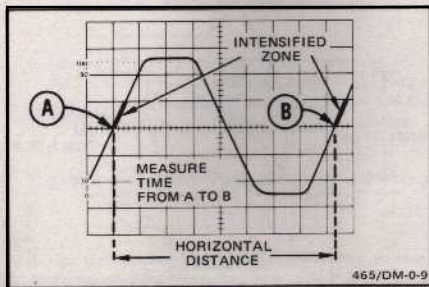

Figure 25. Time duration.
2. For the most accurate measurement, set the B TIME/DIV switch to the fastest sweep that provides a usable (visible) intensified zone. Vertically position the A Sweep display to place the time measurement points on the center horizontal graticule line (see Figure 25).
- Use the DELAY TIME POSITION control to move the start of the intensified zone so that it just touches the intersection of the signal and the center horizontal graticule line (see Figure 25, Point A).
- Use the DELAY TIME POSITION control to move the start of the intensified zone to the second time measurement point (see Figure 25, Point B).
EXAMPLE: The DELAY TIME POSITION dial setting at Point A is 1.20 and the DELAY TIME POSITION dial setting at Point B is 9.53 with A TIME/DIV switch set to 2 ms (see Figure 25).
EXAMPLE: The time duration of one event (Point A to Point B, Figure 25) is 16.66 milliseconds.